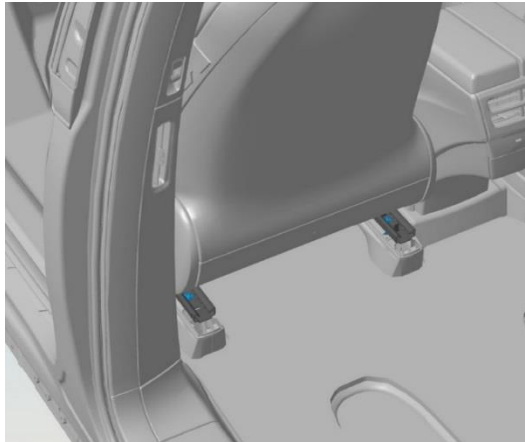

Figure 11. Rear seat track bolts
- f. Remove and discard the rear bolts (x2) (Figure 11) that secure the seat to the riser (torque 34 Nm).